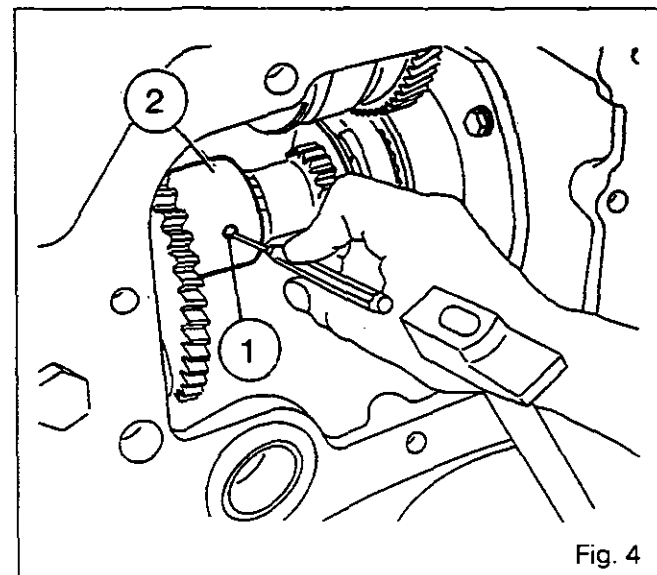

Fig. 4
8. Drive out the pin (1) from the coupling sleeve (2) (Fig. 4).